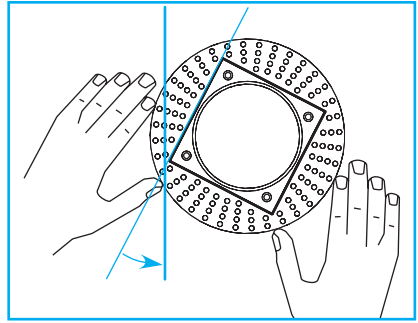

Fig.47
**Important:** For square fixture installations, appliqué must be properly aligned. Utilize string line or laser level to obtain uniform or desired alignment between multiple fixtures, or in relation to parallel planes **"Fig.47"**.